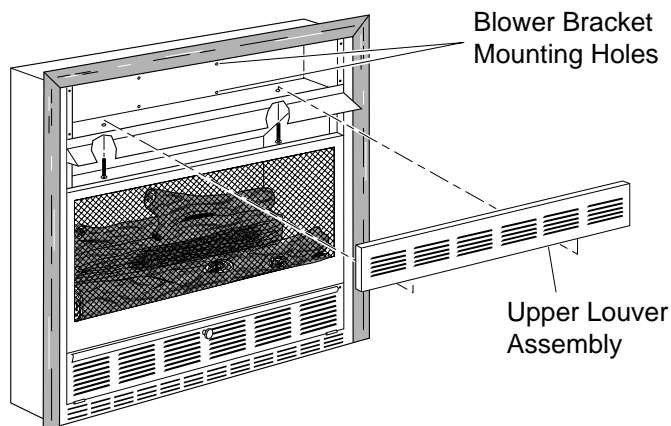

Figure 2 - Removing Upper Louver Assembly
2. Remove 2 screws from louver assembly (see Figure 2). Save these screws.